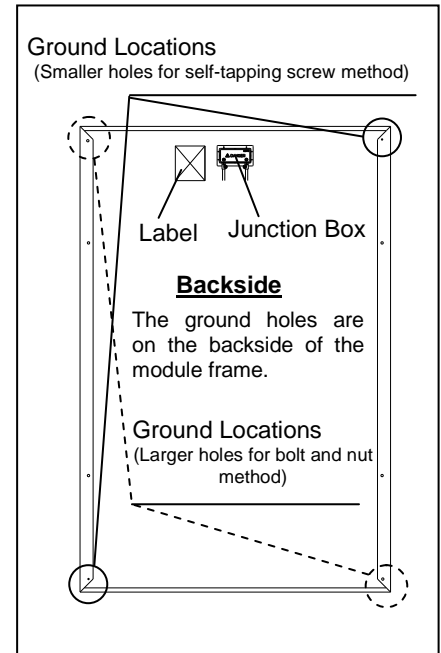

Figure 3.1
- These ground holes are marked with a “G” adjacent to their location on the frame rail (see Figure 3.1).
Ground using a self-tapping screw. Note: Use the smaller ground holes illustrated in Figure 3.1.
Ground using a bolt and nut. Note: Use the larger ground holes illustrated in Figure 3.1.